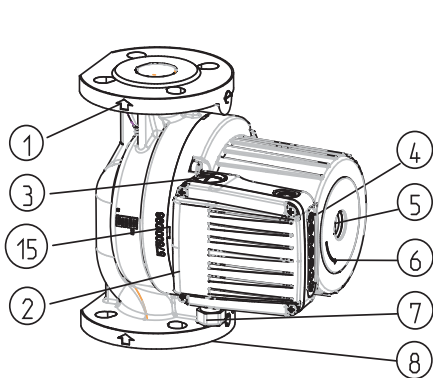
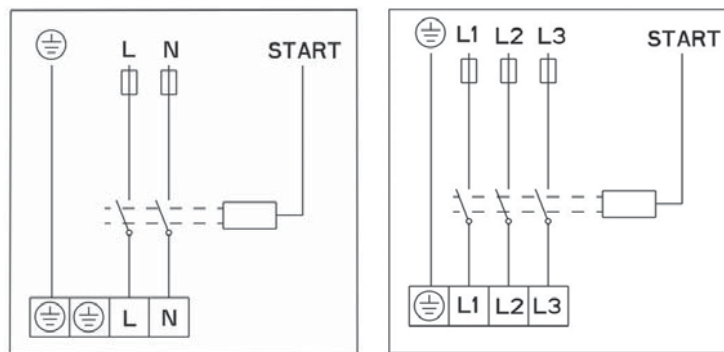

Fig.2
Fig. 4
- Direction of water flow through the pump should match with direction, indicated by an arrow on the pump casing (Fig.2-POS.1).
- The connecting flanges are designed for nominal pressure NP 6/10 (Fig.2 – POS.8).
- SCRF pumps have a single hydraulic casing (Fig.2– POS.8).
The hydraulic casing of the pump can be insulated only to the cleft between the motor and the hydraulic casing. Openings for condensate drainage should remain uncovered and enable the drainage from the stator housing. Similarly, the same openings must be uncovered also in heating systems, when only thermal insulation of hydraulic casing is implemented (Fig. 2, 3, POS. 15). Electric motor casing, on which the openings for condensate drainage are located, under no condition should not be insulated!
The connecting wire has to be connected over a cable entry M20 (Fig.2 – POS.7).
Electrical connections of the pump must be carried out in accordance with the wiring diagram (Fig. 4), attached on the bottom of motor cover. Before doing that unwind the upper cover (Fig. 2 - POS. 2).
the rotor is submerged and provided with special water-lubricated bearings. Before putting the pump into operation, it has to be filled with water and deaerated. Deaerate the pump by unscrewing a screw on the back side of the electric motor (Fig.2-POS.5). Air will flow out through the cleft between the motor shaft and the bearing. When water starts to flow out, close the valves at both the suction and pressure side of the pump. Start the pump and check the direction of shaft rotation. In case of a wrong direction a built-in flash lamp will start to blink with red light.
Each pump is able to cover the areas of three hydraulic characteristics. To achieve this, it has an inbuilt electric motor with three different revolution speeds. For achieving the selected characteristics or speeds ① ② ③, the pump has a push button  (Fig.2-POS. 4), with which we change speeds.
Switch off the pump, close the valve on both pressure and suction sides of the pump, unscrew the vent for deaeration, place the screwdriver (Fig.2-POS.5) in the notch on the shaft and twist as long as friction forces allow. Then screw the vent for deaeration.